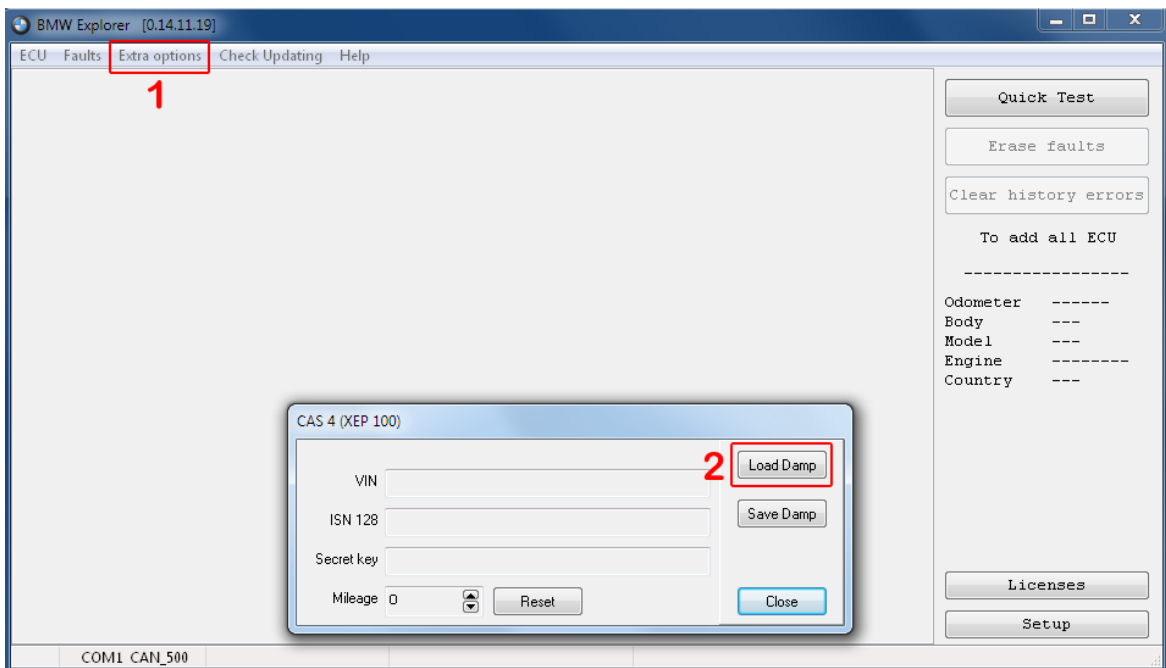

Figure 28 Save Data-FLASH to file
- Use 'Save Damp' button to store modified Data-FLASH (Figure 28).